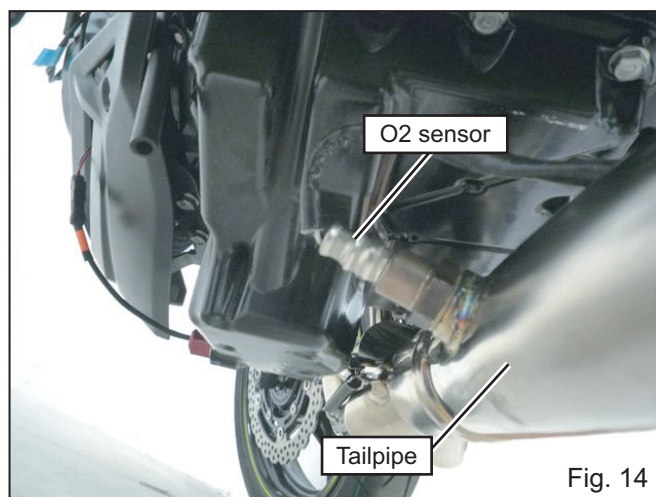

Fig. 14
- 12) Install O2 sensor which was removed at Step 2 on Tailpipe, tighten with the specified torque and connector the O2 sensor coupler to the vehicle. (See Fig. 14)